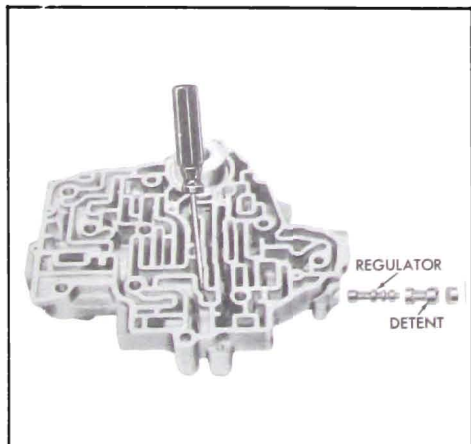

Figure 5-581A
9. In the next bore up, install the detent spring and spacer. Compress spring and secure with small screwdriver. See Figure 5-581A.